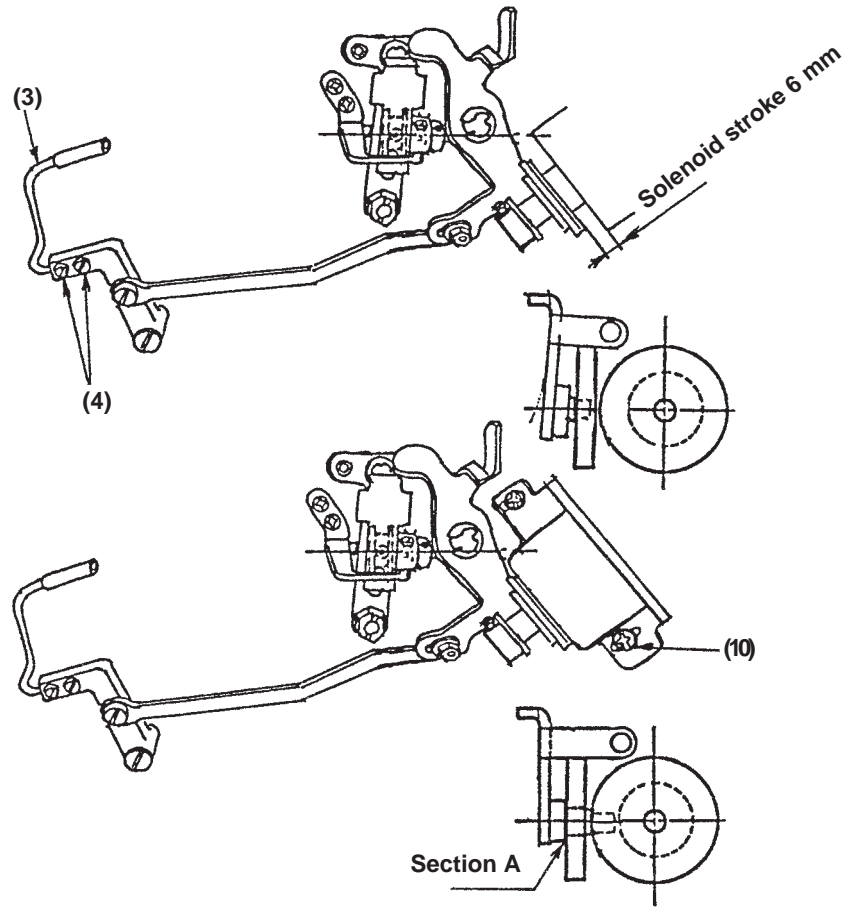

Fig. 30
Installing positions of the clutch plate and the solenoid are the positions where the clearance of section A is 0.1 to 0.5 mm when the thread trimmer solenoid is drawn (Fig. 30).
In this state, tighten solenoid setscrew (Fig. 30 (10)).